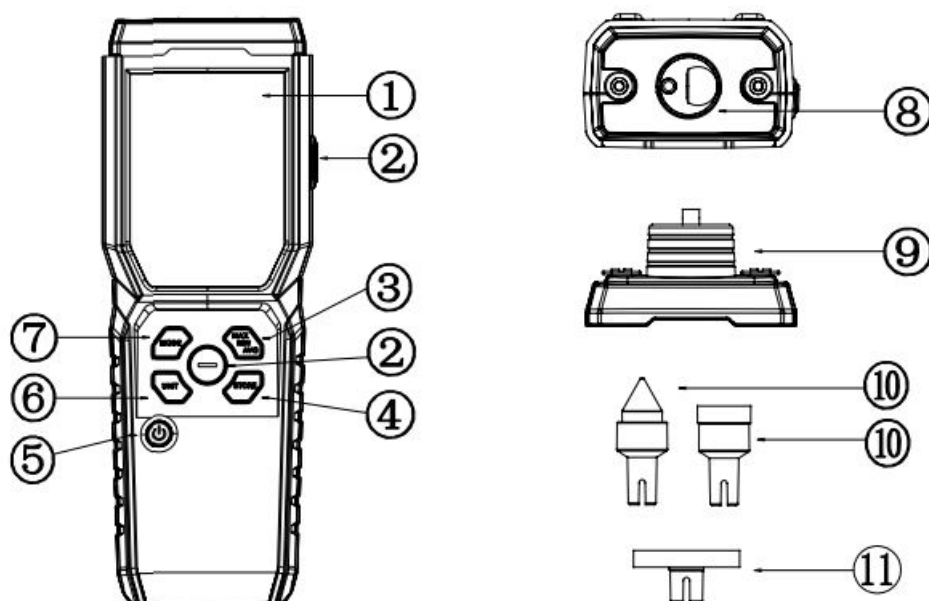

Figure. 1
- 5 V. Structure (Figure 1)
V. Structure (Figure 1)